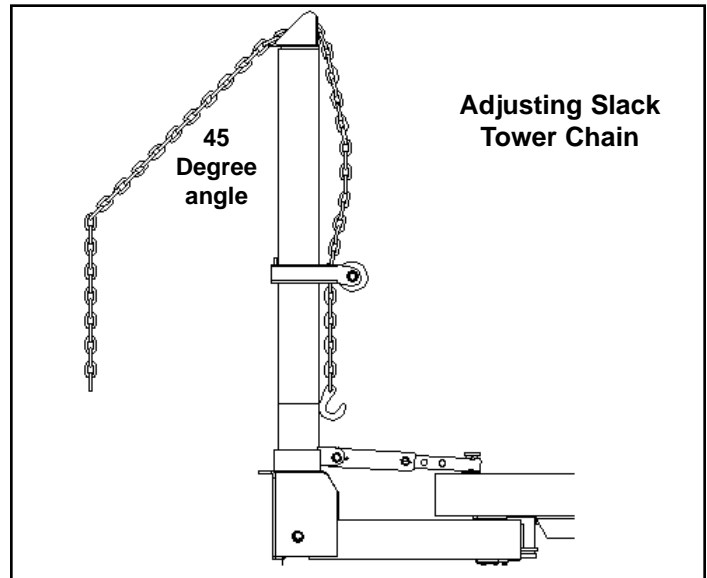

Figure 18
6. To adjust slack tower chain grip chain on each side of tower. (See Figure 18.) Lift out on end of chain until it is approximately 45 degrees from tower. Then disengage chain from tower head and pull chain to either increase or decrease amount of slack.